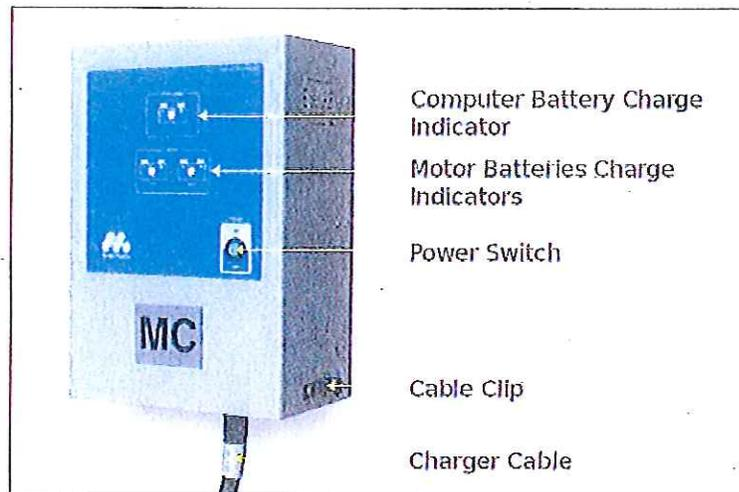

Figure 4. RHTT Charger.
e. The charger (Figure 4) is a docking station to recharge an RHTT. There is one charger per RHTT.